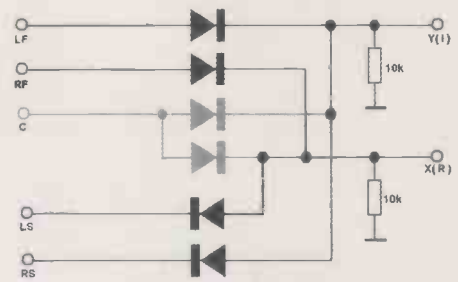
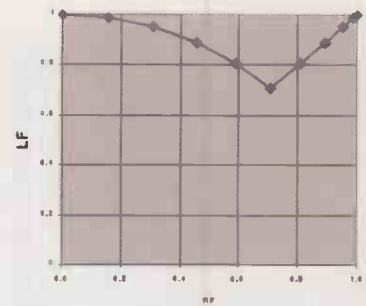

Figure 4: The initial experimental prototype
Figure 7: the result of a LF to centre pan when the circuit of Figure 4 is employed.
The schematic of the initial, experimental prototype of the proposed monitoring system is given in Figure 4. Central to the concept are the half wave-rectifiers. Later I will give analogue circuit implementation of the complete monitoring system but, both this rectification part and the subsequent display part, could easily be adapted (and improved) to digital techniques and/or software implementation.
In the experimental set up shown in Figure 4, it can be seen that, with the appropriate direction of rectifier, LF and RF contribute the imaginary and real values in the first quadrant and LS and RS represent the real and imaginary components in the third quadrant. Note also that the Centre channel is added equally to the real and imaginary values in the first quadrant. This ensures that the Centre channel contributes only to a special vector at $+\pi/4$. (The Centre channel is shown greyed-out in Figure 4 because there is a limitation with the technique as shown, which will be dealt with below.)
So what will the proposed display indicate as a source is panned between the three front loudspeakers? Figure 7 represents the result of a LF to Centre pan² when the primitive circuit of Figure 4 is employed. To understand the graph you have to read each point left to right as the position of the tip of the phasor as it
moves from extreme left (LF) to centre (C) in quadrant 1 as the pan is operated, the various points indicating one-tenth of the overall pan-control rotation. The reason for this non-linear result is the effect of the rectifiers. Looking at the circuit in Figure 4, you can see that the positive values presented to the Y(I) output will be the rectified result of the LF signal and the Centre signal and, in each case, the instantaneous, positive value will be whichever is the greater of these two signals. That accounts for the inflection in the curve in Figure 7.